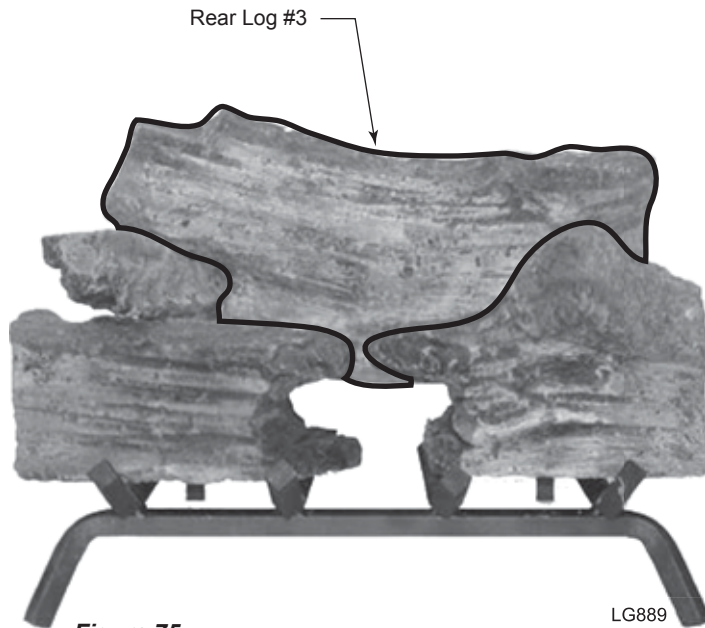

**Figure 75 -
5. Fit cutout in the bottom left of Rear Log #3 over the back end of log #1a. Rest right end of Log #3 on rear grate bar. *Figure 75*